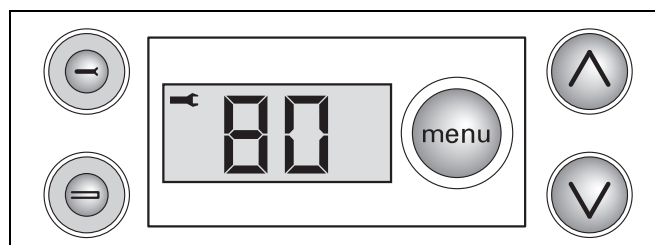

fig. 53 DBA with open-end spanner
- Set the boiler to partial load by pressing the service button "A" once. A symbol of an open-end spanner "F" appears in the upper left hand corner of the display (see fig. 53).